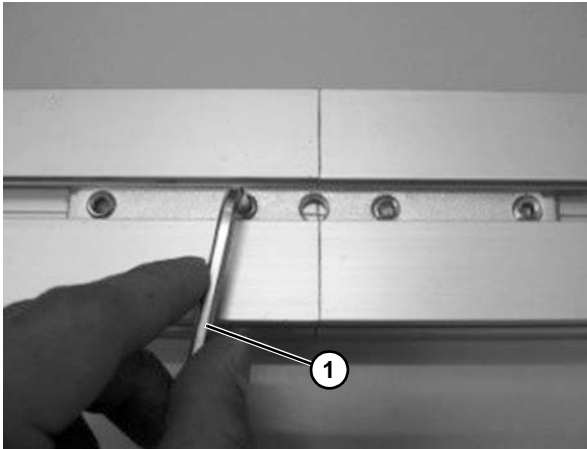

Figure 23
3. Tighten the set screws using a hex key (Figure 23, item 1).